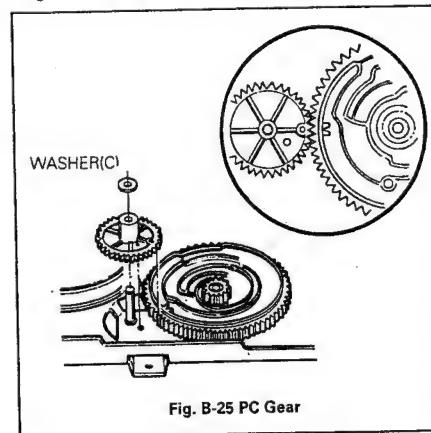

Fig. B-25 PC Gear
- ① Align the Projection of Rack Gear T with the hole of Loading Gear.
- ② Drive the Rack Gear F.L in the direction of arrow(D).
- ③ Hole of Cam should be aligned with the hole of chassis, and the groove(■) of Cam Gear should be aligned with the hole of PC Gear (Fig. B-25)
### 25. PC Gear(Fig. B-25)
- ① The Groove of PC Gear should be aligned with the groove(V) of Cam Gear, and another hole of it should be aligned with the hole of chassis (Fig. B-25).